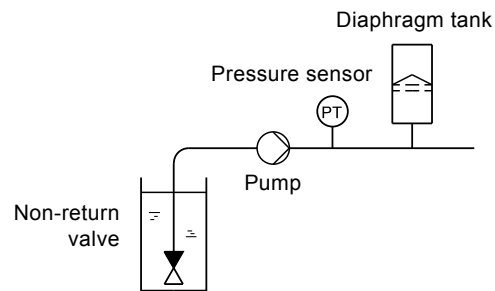

Fig. 25 Position of the non-return valve and pressure sensor in system with suction lift operation
**Caution** The non-return valve must always be installed before the pressure sensor. See figures 25 and 26.